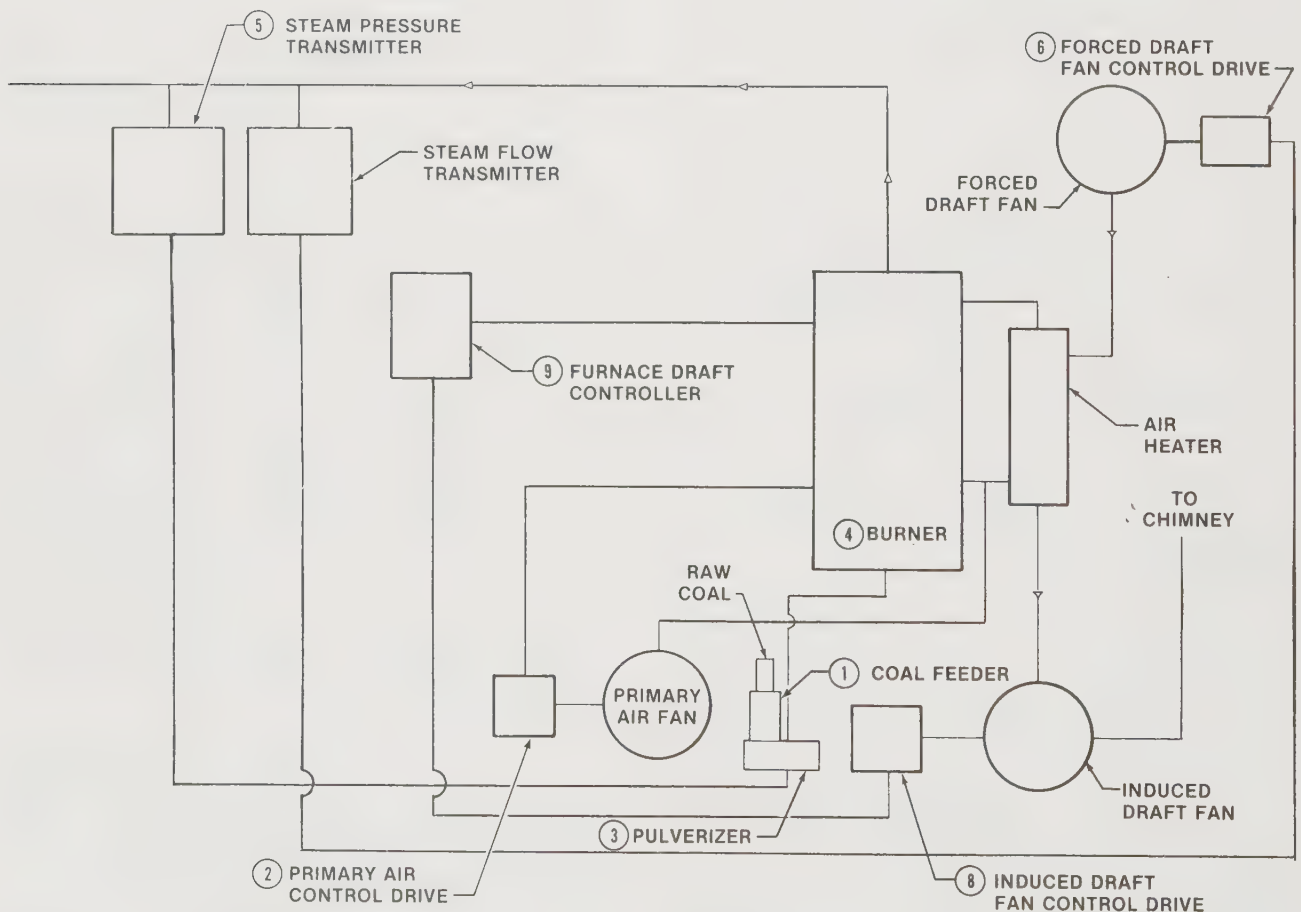

Figure 8-13. Metering control systems are sensitive enough to control the operation of a pulverized coal fired boiler.
When the pulverized coal system is in the automatic position, the metering control system functions in the following manner. See Figure 8-13. The coal feeder (1) and the primary air control drive (2) regulate the amount of coal going through the pulverizer (3) to the burner (4). The signal to control the coal feeder